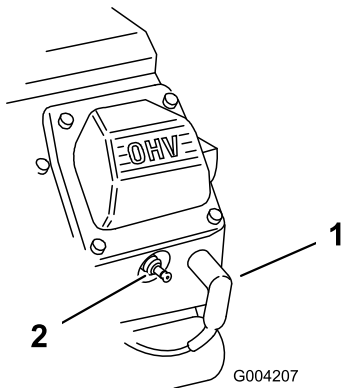

Figure 35
3. Pull the wires off of the spark plugs (Figure 35).
3. Push the wires onto the spark plugs (Figure 35).